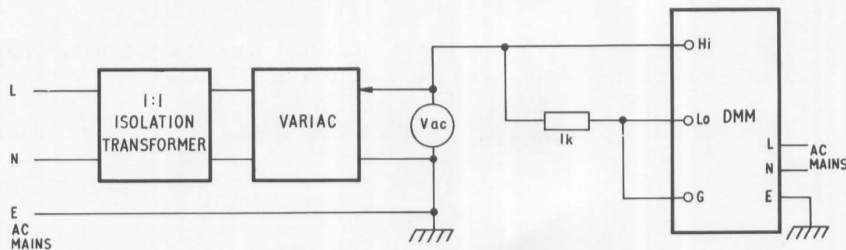

Fig. 4.3. Interference Rejection:- Common Mode (ac) Test Circuit.
1. Connect instrument as shown in Fig. 4.3.